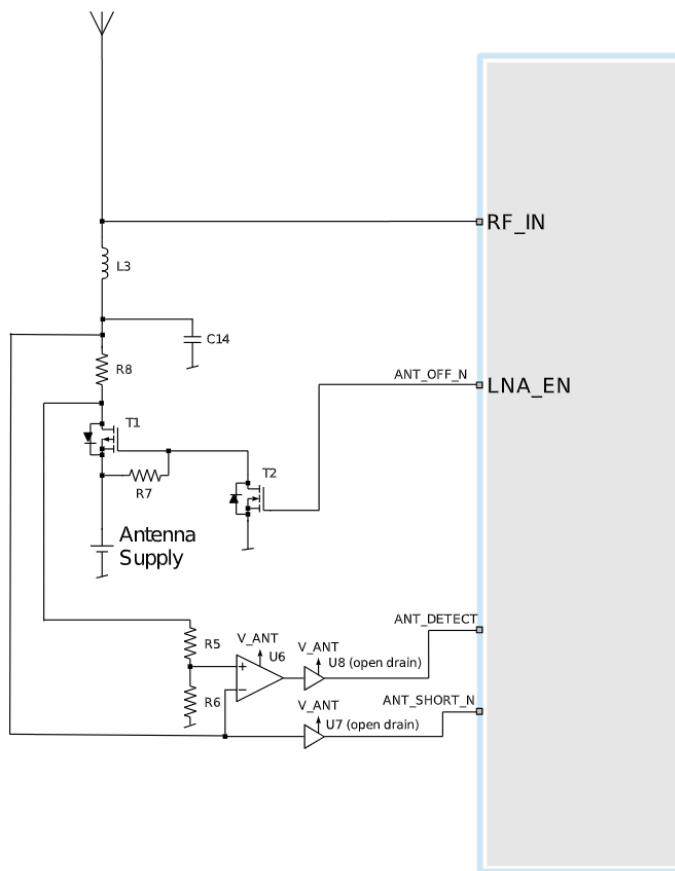

Figure 10: MAX-M10S three-pin antenna supervisor
Figure 10 presents the required three-pin antenna supervisor circuit and subsequent sections describe how to enable and monitor each feature.
Table 15 presents a list of the external components required for implementing the three-pin antenna supervisor design in Figure 10. Refer to External components for the recommended parts and specification.
- The open drain buffers shown in Figure 10 are not needed if V_ANT is the same voltage level as V_IO.